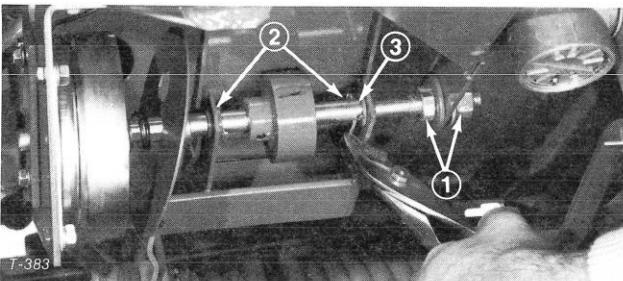

Figure 30
16. Center friction wheel in pedal, position shaft cotter pin holes so pins can be installed and insert cotter pins. Do not open ends of cotter pins. Check end play of shaft and pedal. End play should be less than $1/16$ in. (1.6 mm). If play is greater than $1/16$ in. (1.6 mm) add a $1/2$ in. (13 mm) diameter washer between the cotter pin and pedal assembly (Fig. 30). Tighten jam nuts (Fig. 30).
17. Open ends of cotter pins (Fig. 30).